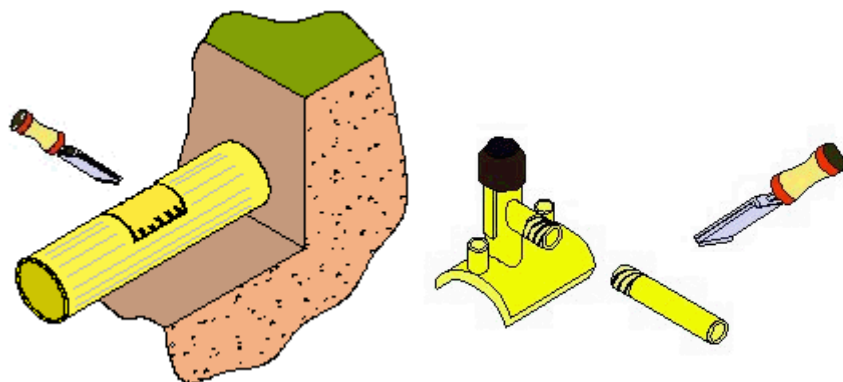

Figure D3 – Scraping of PE80 pipe Figure D4 – Scraping of Spigot
16. On PE 80 pipe thoroughly scrape the whole area outlined using a sharp approved scraper Figure D3.